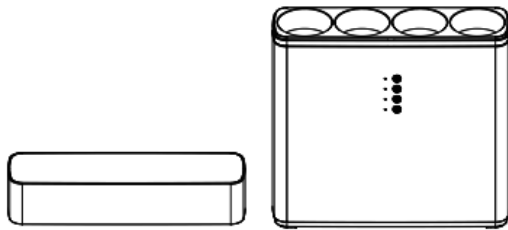

Fig. 1
2. Open the top plastic cover of the appliance (Figure 1)